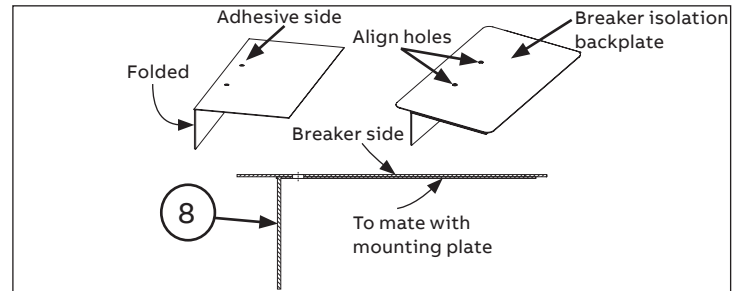

Figure 6. Prepare L-shaped barrier assembly
Prepare L-shaped barrier assembly. Fold L shaped barrier (8) as shown in figure 6 and fix the breaker isolation base plate (supplied with breaker kit) to the adhesive surface of L shape barrier (8) as shown in figure 6.